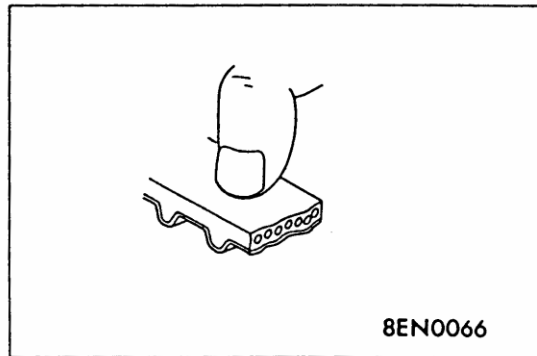

Fig.4-72
- (1) Hardened backing rubber (the backing rubber is glossy, non-elastic, and so hard that scratching with fingernail leaves no mark), see Fig.4-72.